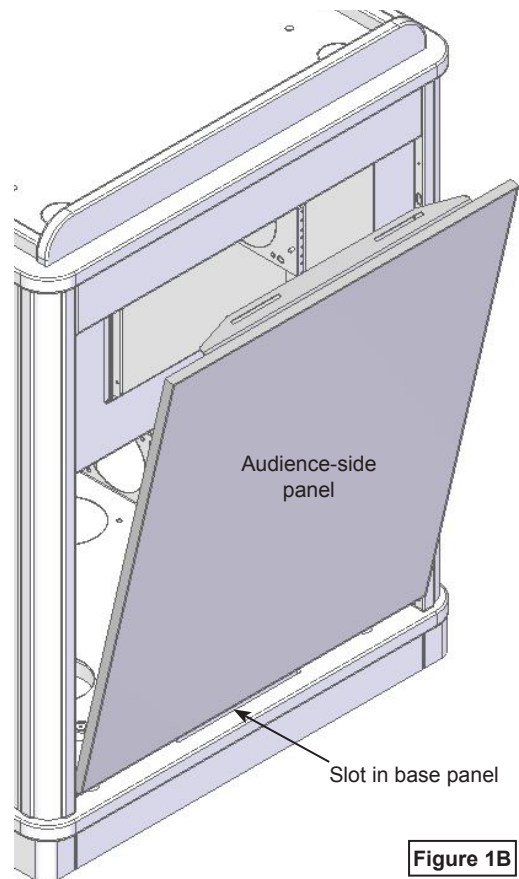

Figure 1B
3. Carefully lift out the audience-side panel. **Figure 1B.**